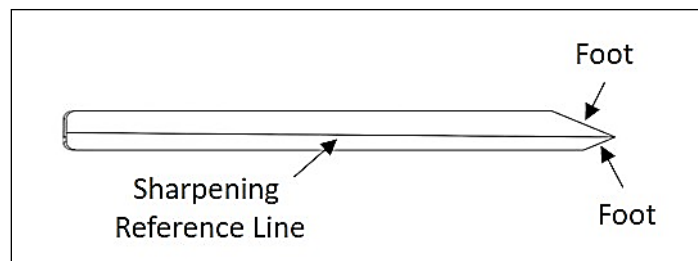
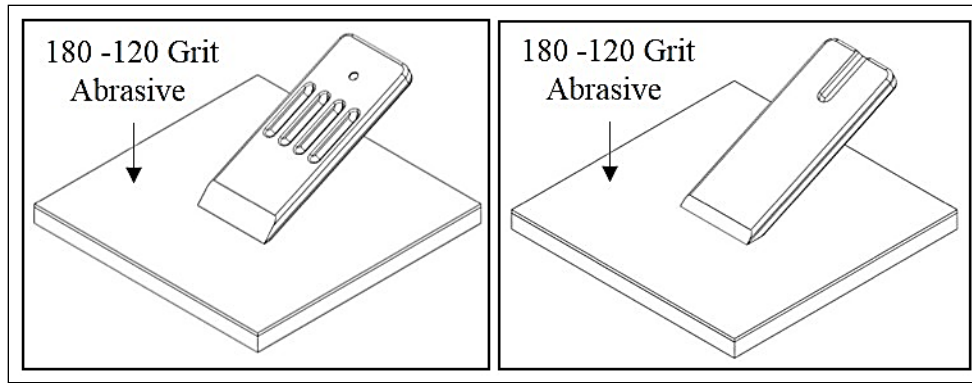

Figure 2. Sharpening Reference Line
Figure 3. TSB Sharpening (both sides of blade)
- 3.1.2. Ensure the TSB cutting edge is sharp prior to use and has its as-manufactured asymmetrical configuration with 25 degree cutting angle. A reference line is located on the long edge of the TSB to serve as a guide when sharpening to facilitate maintenance of the original configuration. See **Figure 2**.
- 3.1.3. Sharpen the TSB using 180-120 grit abrasive paper on a flat surface. Place a TSB foot (**Figure 2**) on the abrasive paper and move the blade back and forth on the abrasive paper. See **Figure 3**. Alternate between one TSB foot and the other when sharpening until the cutting edge has been restored to the reference line.